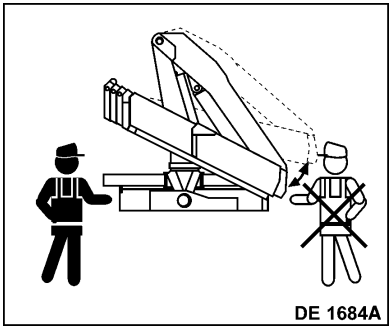

fig. 30
**While exiting and folding the crane, you must operate from the distributor side; it is forbidden to operate from the double control side because of the overall dimensions of the booms. (DE1684A fig. 30)**